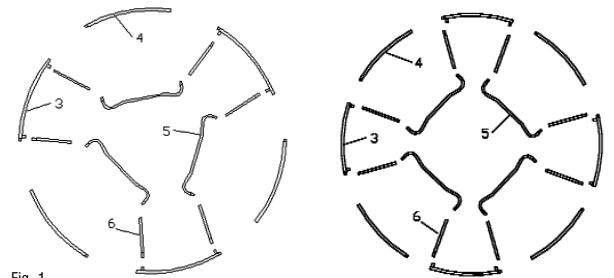

Fig. 1
A. Place all parts as shown (see Fig. 1) into a circle